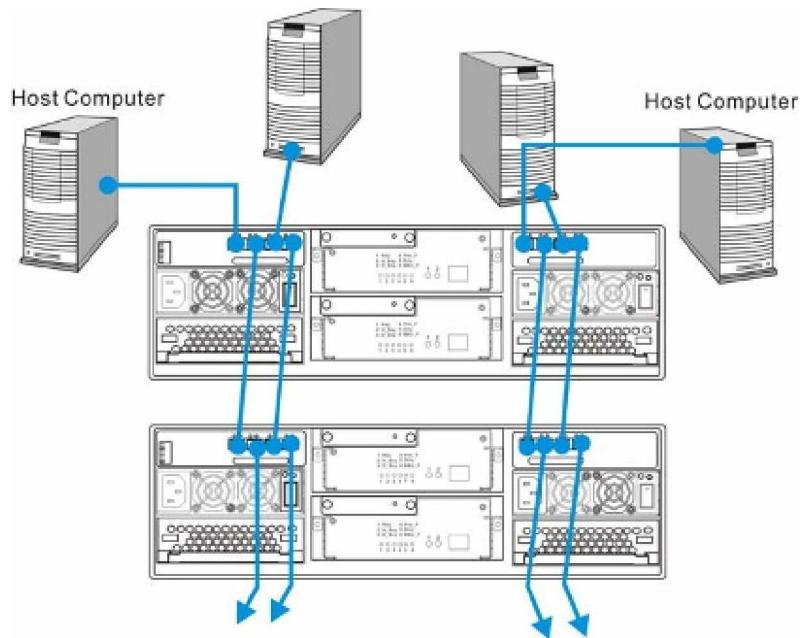

Figure 4-4: Direct Single Host Connection and Daisy Chain
1. Connect the left FC ports from each host connection modules to a dual-ported host computer. (See *Figure 4-4*.) When one controller fails, the alternative controller will take over the job.